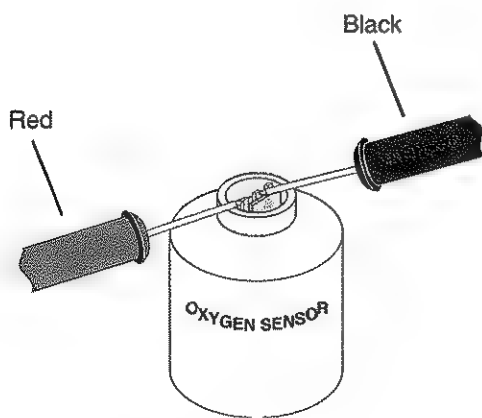

FIGURE 28:
4. Connect the negative (-) lead of the meter to the center pin of the electrical connector on the oxygen sensor. Connect the positive (+) lead of the meter to the **correct** outer pin of the connector as shown in FIGURE 28. Use the location of the electrical connector's locking ramp and its relationship to the pins on the oxygen sensor's connector to determine the correct test connection point for the positive (+) lead of the meter.